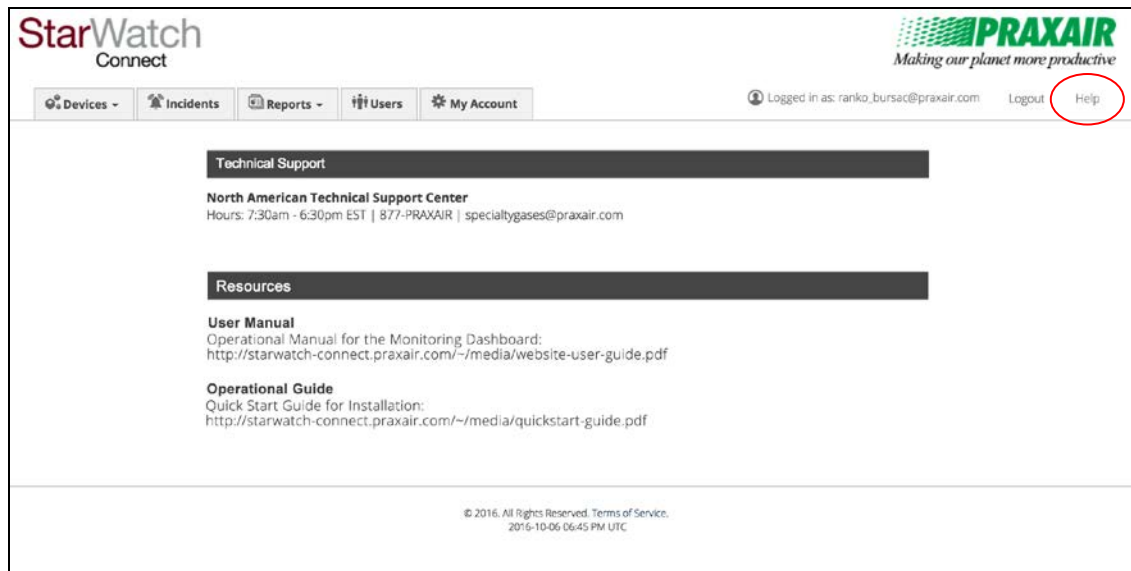

Figure 17: Help Screen Example
1. Select **Help**, located at the upper-right corner of the screen, to access technical support information (see Figure 17).